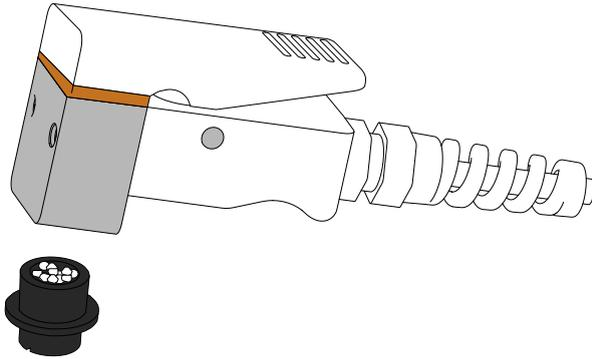

Figure 5 Filling desiccant chamber
1. Unscrew the black detachable desiccant chamber from the bottom of the aluminum sensor block (Figure 5).